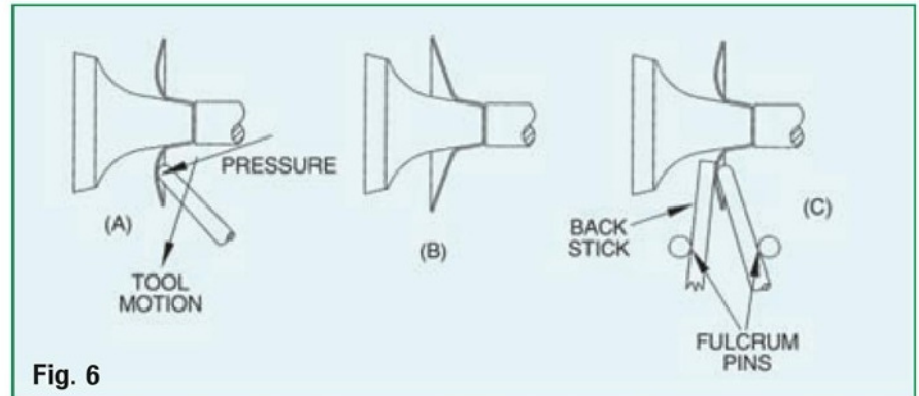

Fig. 6
method remains however, to catch the problem early, by drawing back the spinning tool, coupled with right-to-left pressure (**Fig.6(a)** and **Photo. 4**) over the incurved surface, to provide a profile as in (b). If corrugation is present (easily detected by 'feel' of work against tool), then the back-stick is brought into play, using it as a pressure pad against the spinning tool, drawing both tools backwards and towards the left as in (c). Note that a second peg will be required to
When annealed work is returned to the lathe, it is sensible to re-dress that part of it which has already been put down hard against the mandrel, to re-assert contact, always working from right to left. This is because the heating process can cause some local distortion of the workpiece. It may be necessary to anneal more than once, dependent usually upon the depth of the spinning. The operator can also be a factor, since undue timidity may give rise to several passes over the work where one will do, and work-hardening will occur more rapidly as a result. As experience is gained, it is possible to become quite brutal, and to put down a shell of the type illustrated in Fig. 6 and Photo. 6, even in copper, in one rapid session, comprising three passes at most, starting with stock material and no annealing at all. This can be a great advantage, since scale removal is a nuisance, and can make finishing and polishing rather difficult at times. Annealed material becomes very soft indeed, and it is often possible to salvage a badly wrinkled part-spun shell by annealing, and hammering the wrinkles out on an anvil, although further annealing may then be required before returning the piece to the lathe.
one can more or less forget stress fractures at this point. It is possible however, to become too confident, and produce them elsewhere, as in Photo. 7. In this case, the top flange was lost due to pushing too hard against the discontinuity at the top shoulder of the mandrel. The correct procedure is to rotate the flat edge of the tool over the corner, and turn the flange before dressing it down against the mandrel. The general task is however, one of dressing the shell hard down against the mandrel, following the procedure outlined in Fig. 6 and shown part-way through a project in Photo. 8. Note that mandrel design must always feature a slight taper or 'draw' on any 'axially parallel' parts, to allow the shell to be removed from the mandrel when completed (even with a taper, this can be a little difficult at times).
8. Partway through the Fig.6 procedure.